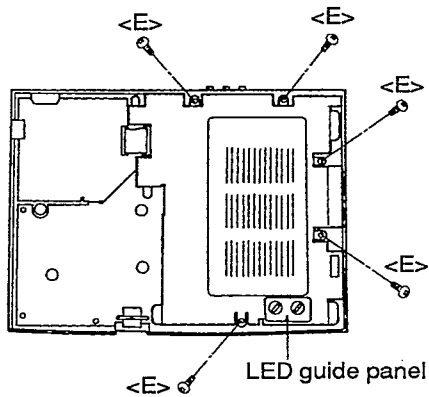

Figure 6
- (1) After removing the top case and traverse unit, remove the LED guide panel.
- (2) Remove five screws <E> and then remove the upper shield plate as shown in figure 6.
- (3) Remove the FMV cover at right side.